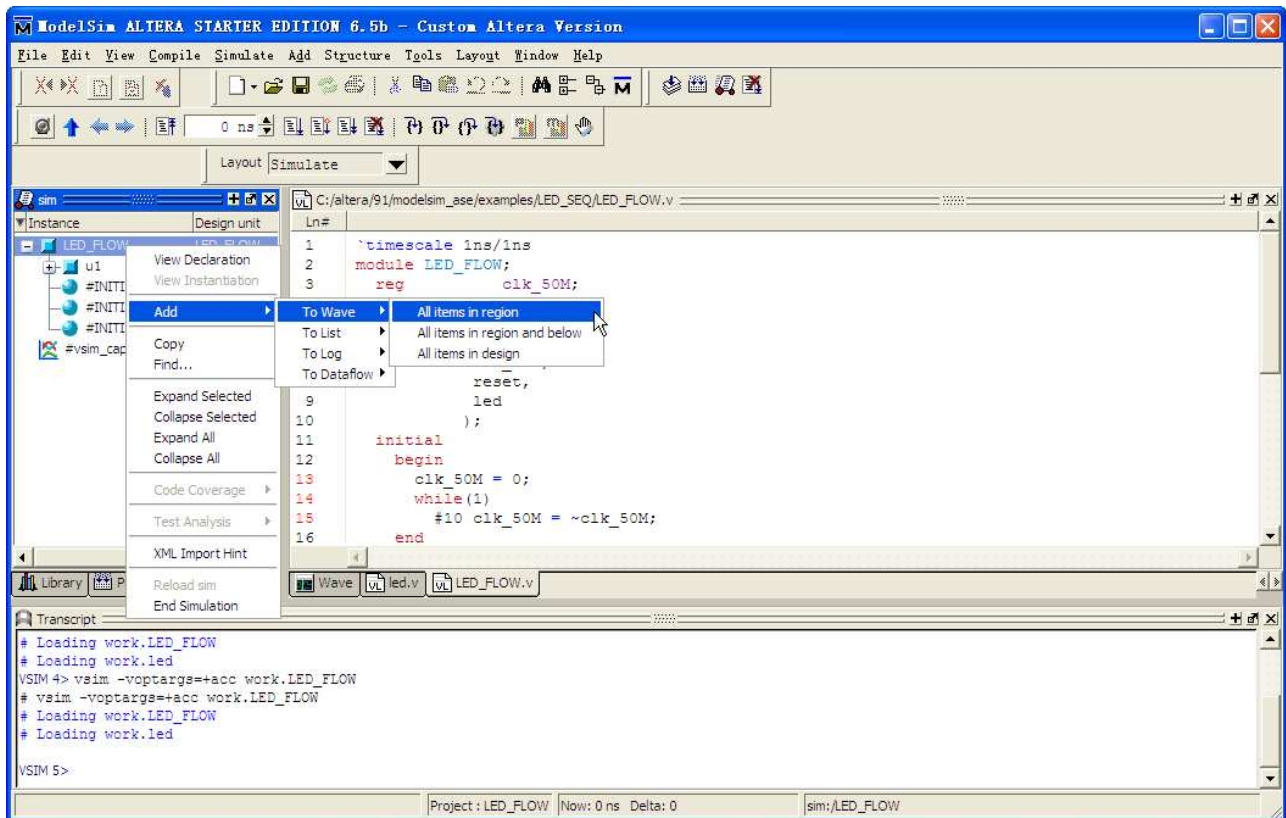
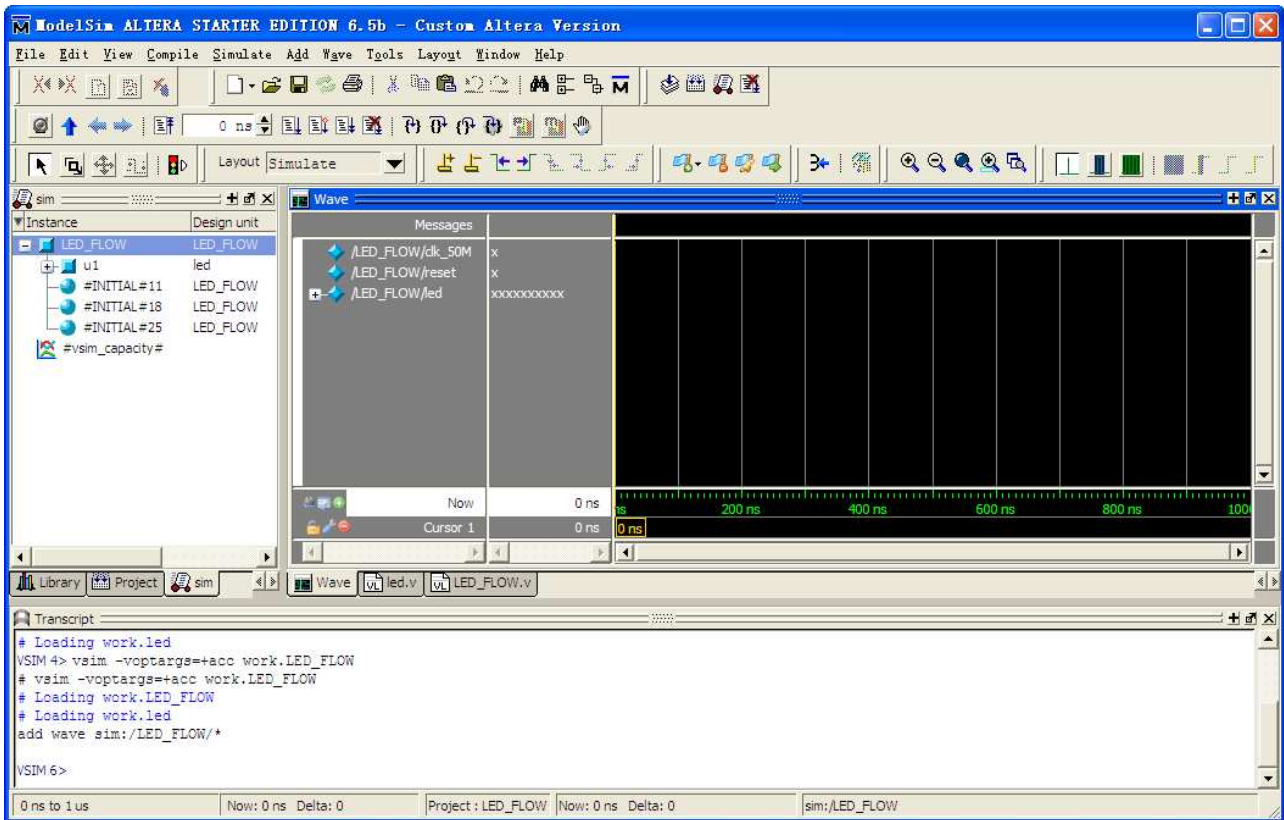

Figure 3.3 Add To Wave
Figure 3.4 Wave window
4. In Figure 3.3, select **LED\_FLOW**, click the right mouse button, then select **Add > To Wave > All items in region**, then click the left mouse button. Figure 3.4 will appear.
5. After finishing the last step above, the wave window will appear, shown in Figure 3.4.